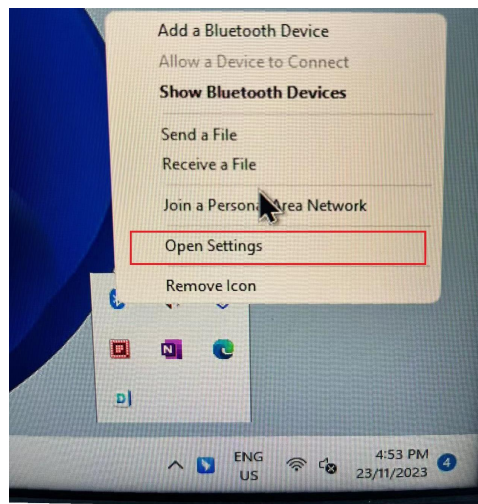

Fig.1
1.1 Take the Win10 system as an example, click the taskbar, right-click the Bluetooth icon and select open Bluetooth Settings option. Fig. 1 (If Bluetooth Settings are not turned on, search for Bluetooth in the search bar)